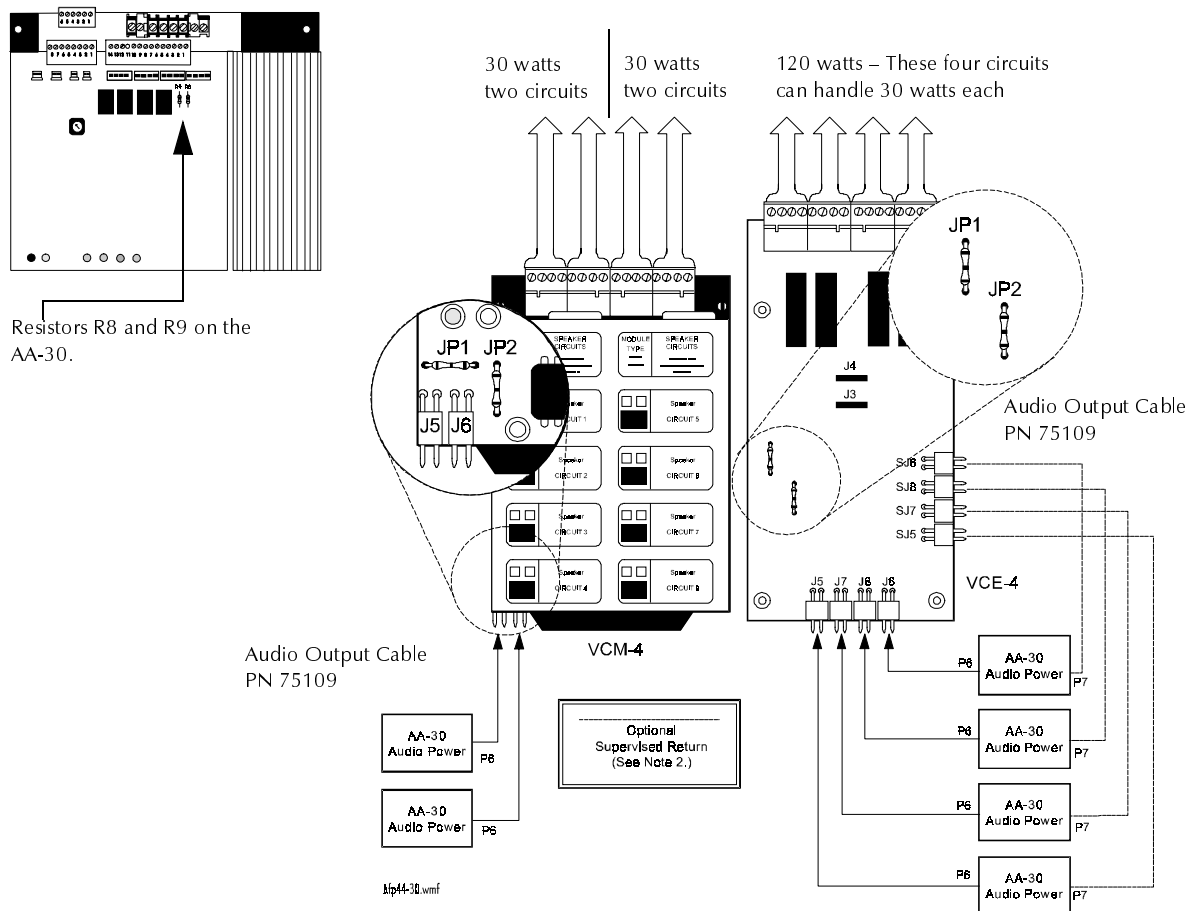

Figure 4-37 Typical 180-Watt, Eight-Speaker Circuit
180 Watt/Eight Speaker Circuit	Figure 4-37 on page 4-31
2. If using an optional supervised four-wire return, cut resistors R8 and R9 (for the location of R8 and R9, see Figure 4-37).
Figure 4-37 shows typical wiring for a 180-watt, eight-speaker circuit: